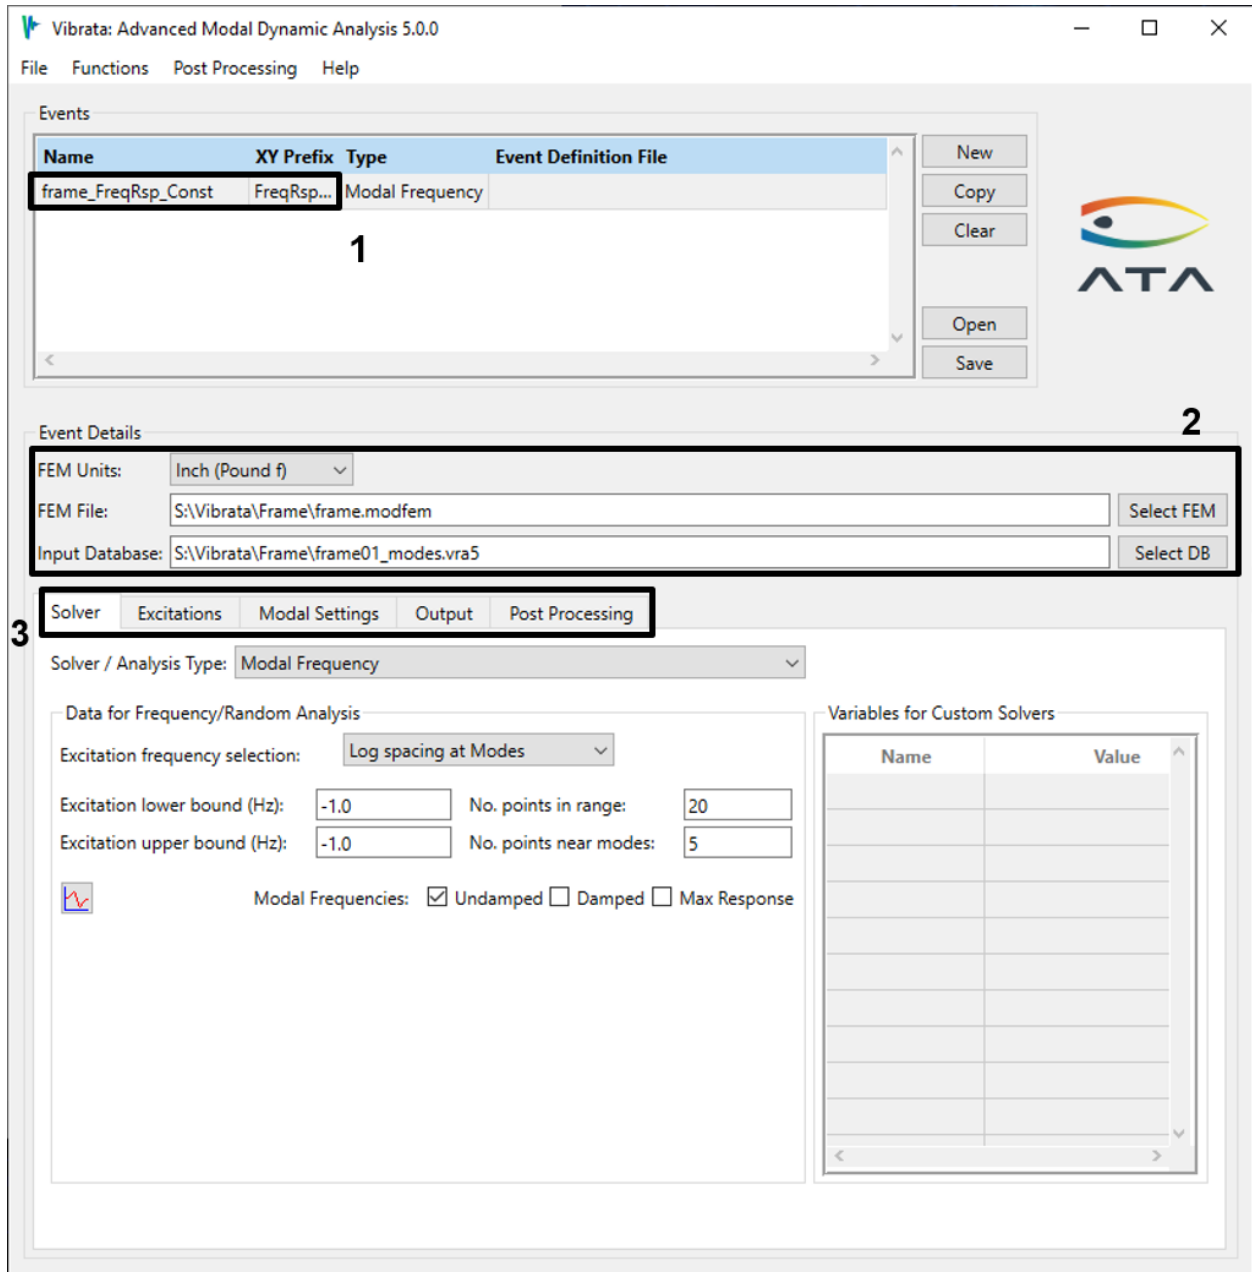

Figure 4-25. Create a new model frequency event using the frame model.
2. In the Event Manager, start a new modal frequency event and select "frame.modfem" for the FEM and "frame01\_modes.op2" for the results. Give the event a recognizable name, such as the one shown in Figure 4-25.